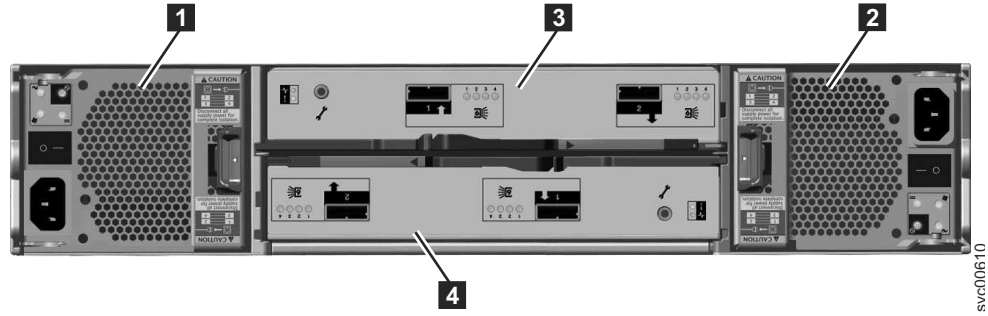

Figure 15. Rear view of a model 2076-212 or a model 2076-224 expansion enclosure
Figure 15 shows the rear view of an expansion enclosure and identifies the location of the power supply units and the canisters. The ports and their use are described later in this section.
- Two canisters are housed in the middle of the enclosure. Each canister is known as an expansion canister. The upper canister, as shown in Figure 15, is canister **3**, and the lower canister is canister **4**. Canister 3 is top side up, and canister 4 is inverted, or top side down.